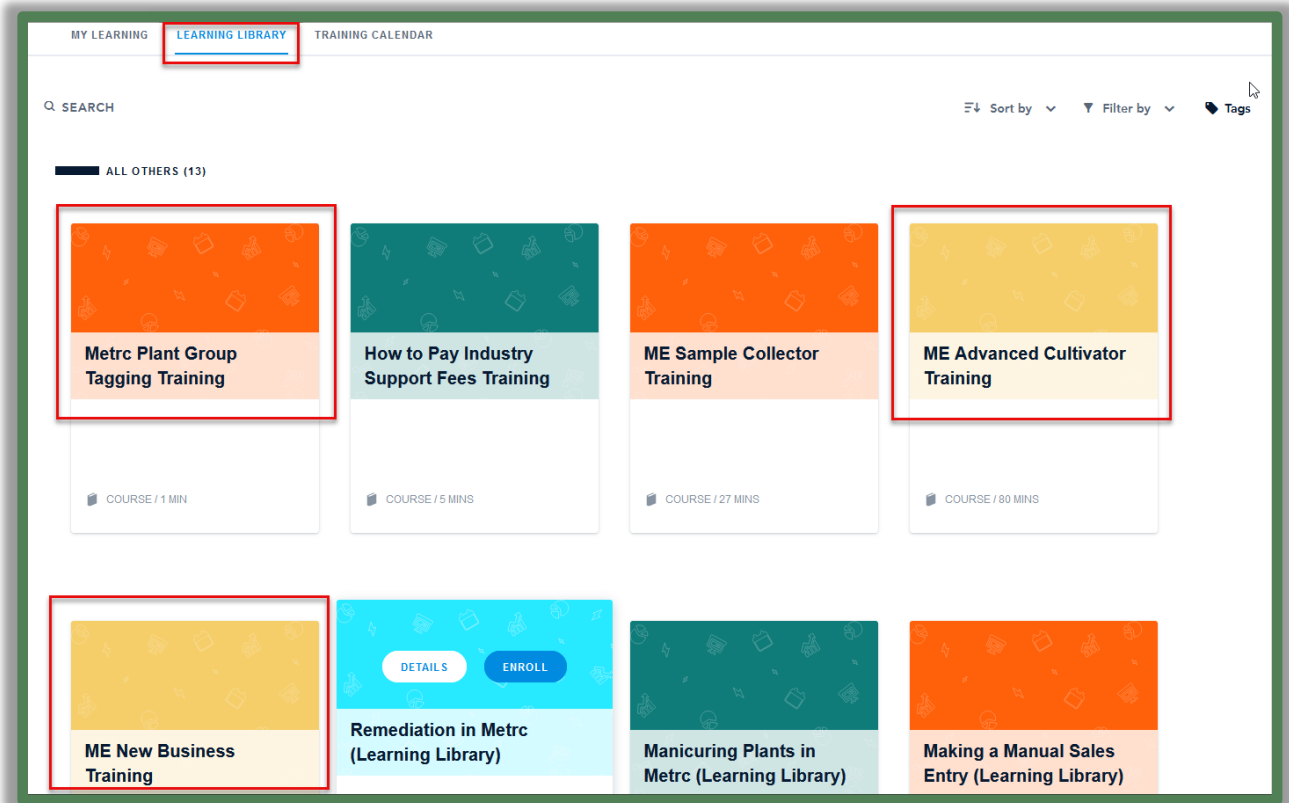

Figure 23: Access on-demand training in the Learning Library
3. Enroll in the preferred training module(s) – Metrc Plant Group Tagging, ME Advanced Cultivator, or ME New Business Training – **see Figure 23.**